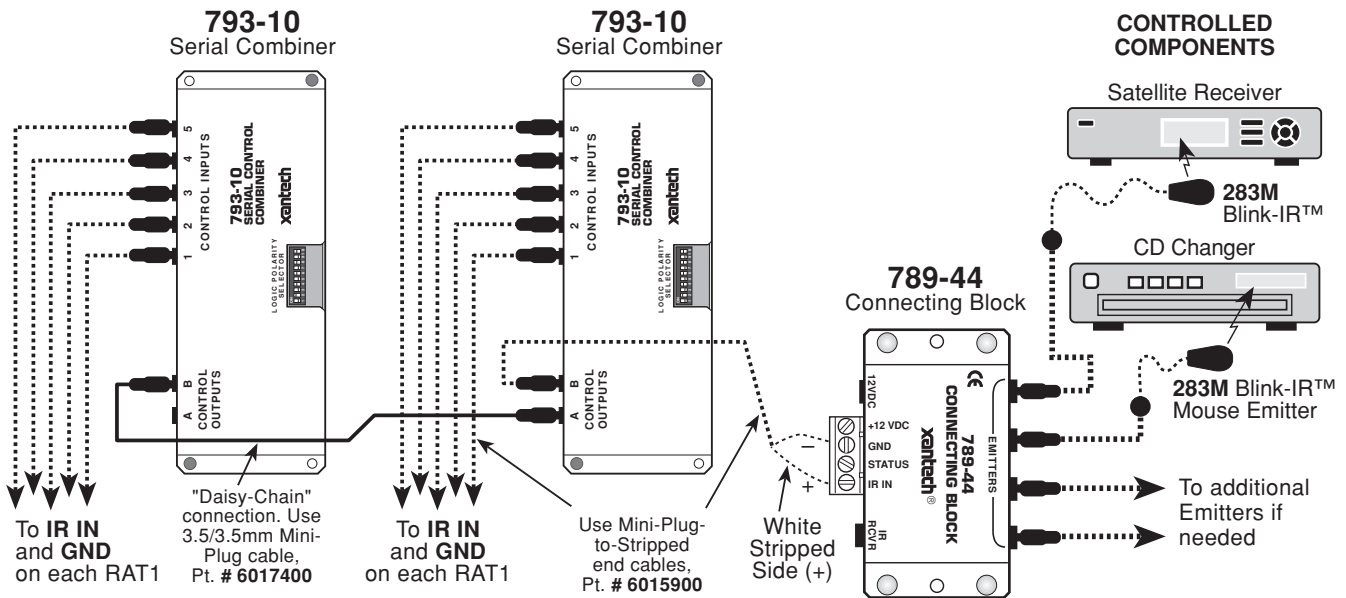

Fig. 5 Daisy-Chaining 793-00's in Multiple RAT1 Dedicated IR Bus Systems
4. The input and output ports on the 793 are 3.5mm mono mini jacks. Use matching mini plug cables with stripped ends when connecting. Polarity must be observed as shown in **Fig. 5**.
For systems using more than five RAT1's, you will need additional 793-00's. These can be easily "daisy chained" as shown in **Fig. 5**.
Fig.5 illustrates how two 793-00 Serial Control Combiners are "Daisy-Chained" to accommodate additional RAT's in a dedicated IR Bus System. This process can be repeated as necessary to accommodate the number of RAT's needed in the system. Simply connect the "B" CONTROL OUTPUTS port of the next 793 into the "A" CONTROL OUTPUTS port on the preceding 793 with a 3.5-to-3.5mm mono-mini cable as shown.